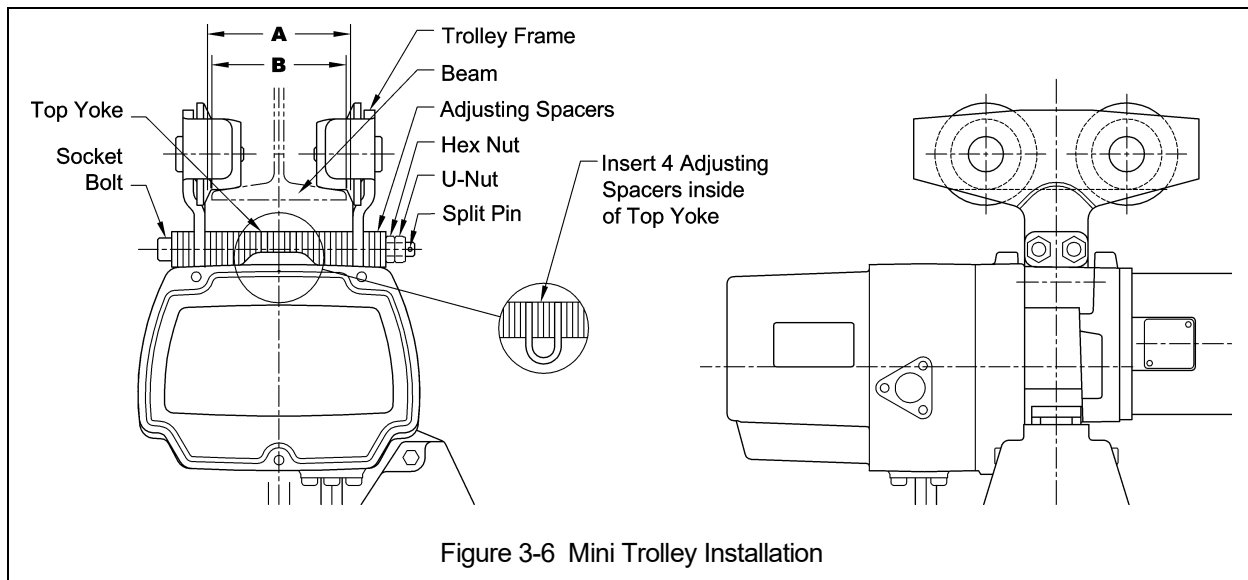

Figure 3-6 Mini Trolley Installation
- 3.8.1 Mini Trolley - Follow instructions below to install the trolley. Refer to Figure 3-6.
- 3) Refer to Figure 3-6 and assemble the Trolley Frames, Adjusting Spacers and Socket Bolts onto the Top Yoke. Install and hand tighten the Hex Nuts on the Socket Bolts. Verify that dimension "A" is approximately 0.12 - 0.16 in (3-4mm) greater than "B" (flange width). If "A" does not fall within the specified range, move Adjusting Spacers from the inside of the Trolley Frame to the outside or from the outside to the inside as necessary to obtain the proper "A" dimension, irrespective of the numbers in Table 3-3.
- 5) Check for contact between all four Trolley Wheels and the rail surface. Shift the Trolley Frame until all Trolley Wheels rest on the rail surface. Tighten the Hex Nuts and install the two (2) U-Nuts onto the Socket Bolts tighten against the Hex Nuts. Install the Split Pins onto the Socket Bolts and bend securely.